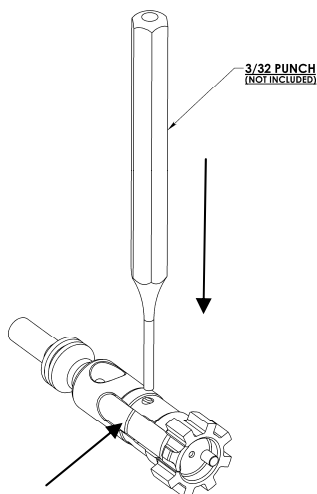

Figure 21.
1. Use a pin punch to remove the extractor pin. (Figure 21). Applying pressure to extractor will aid in removal of extractor pin. Be aware that the extractor spring and extractor are in tension.